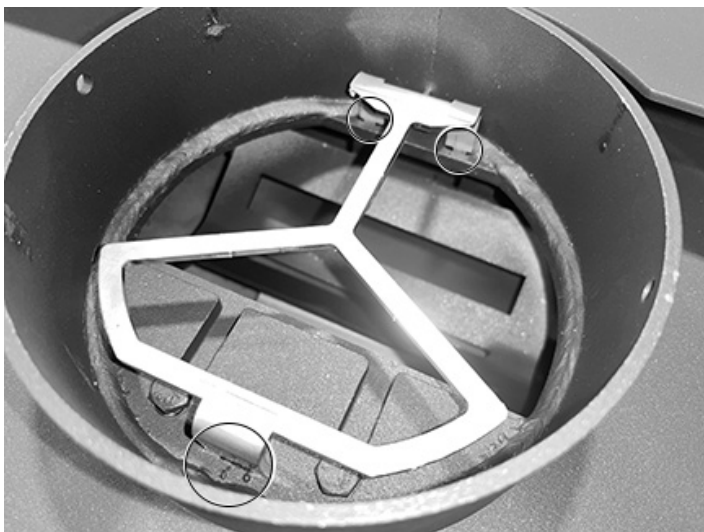

Figure 11: Thermocouple guard installed.
3. Re-install the thermocouple guard. Ensure all three ends are in place correctly. Figure 11